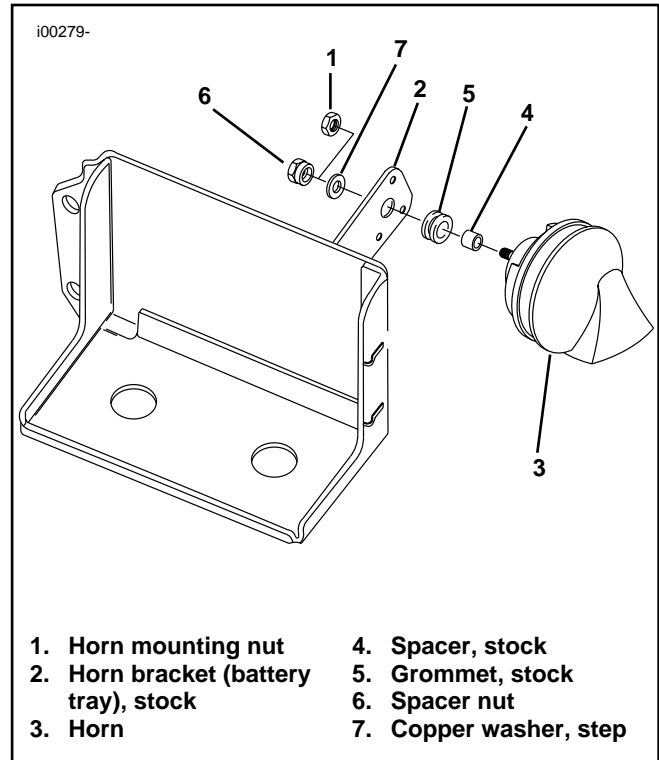

Figure 1. 1994 Dyna Model Horn
The only Service Part in this kit is the horn mounting nut, Part No. 7495, item (1) in Figure 1.
2. See Figure 1. Remove stock horn nut (1), spacer (4) and horn (3). Discard all three items. Save all other hardware for reinstallation. Note assembly order for reinstallation.
3. **On 1994 Dyna models or 1991-1993 Dyna models retrofitted with the 1994 style battery tray**, install horn mounting stud through grommet (5) in horn mounting bracket with any hardware saved from Step 1 as shown in Figure 1. Apply 1-2 drops of Loctite 271 (red) onto threads of spacer nut (6). Install spacer nut onto horn mounting stud and tighten to 100 - 120 in-lbs (11-13 N-m).